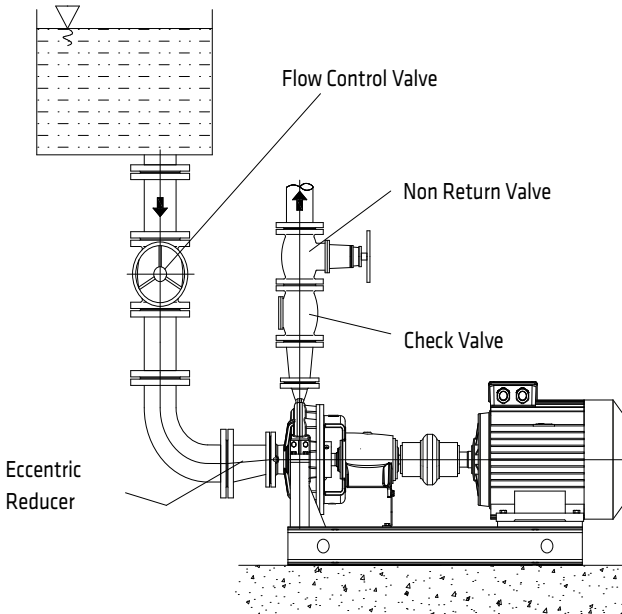

Figure 3. Suction Flooded
• The suction pipe should be definitely watertight and should not be arranged in a way to cause formation of air pockets. These pumps are always installed under a reservoir. Suction pipe should be gradually inclined slightly towards the pump. **Figure 3**